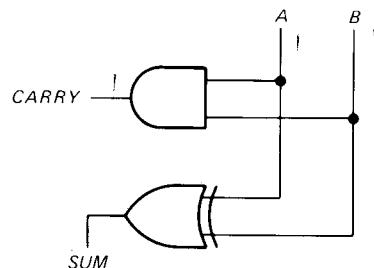

Fig. 3-37
- 3-31. The inputs A and B of Fig. 3-37 produce outputs of $CARRY$ and SUM . What are the values of $CARRY$ and SUM for each of these inputs?
- 3-32. In Fig. 3-37, what is the boolean equation for $CARRY$? For SUM ?